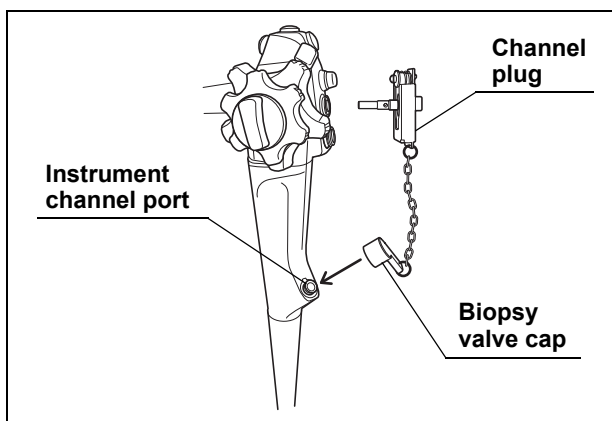

Figure 5.33
3. Attach the channel plug (MH-944) and the injection tube (MH-946) to the endoscope and immerse in the disinfectant solution. (See Figure 5.33, 5.34, and 5.35)
1. Attach the channel plug (MH-944) and the injection tube (MH-946) to the endoscope. (See Figure 5.33 and 5.34)